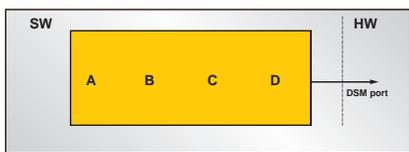
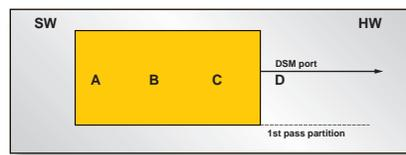

Figure 5 - DSM API port for hardware interface
Figure 7 - DSM API port moved for new partition
3. With the function still in software, we use the DSM API to interface to the hardware component (Figures 5 and 6). We then begin to port blocks of the software to Handel-C for hardware prototyping, testing, and verifying at each stage. This process is relatively simple, because there is a common language base and, most importantly, a common level of abstraction for the software and the hardware. We also move the DSM port to enable the new partition to continue testing and verification at each stage (Figure 7).